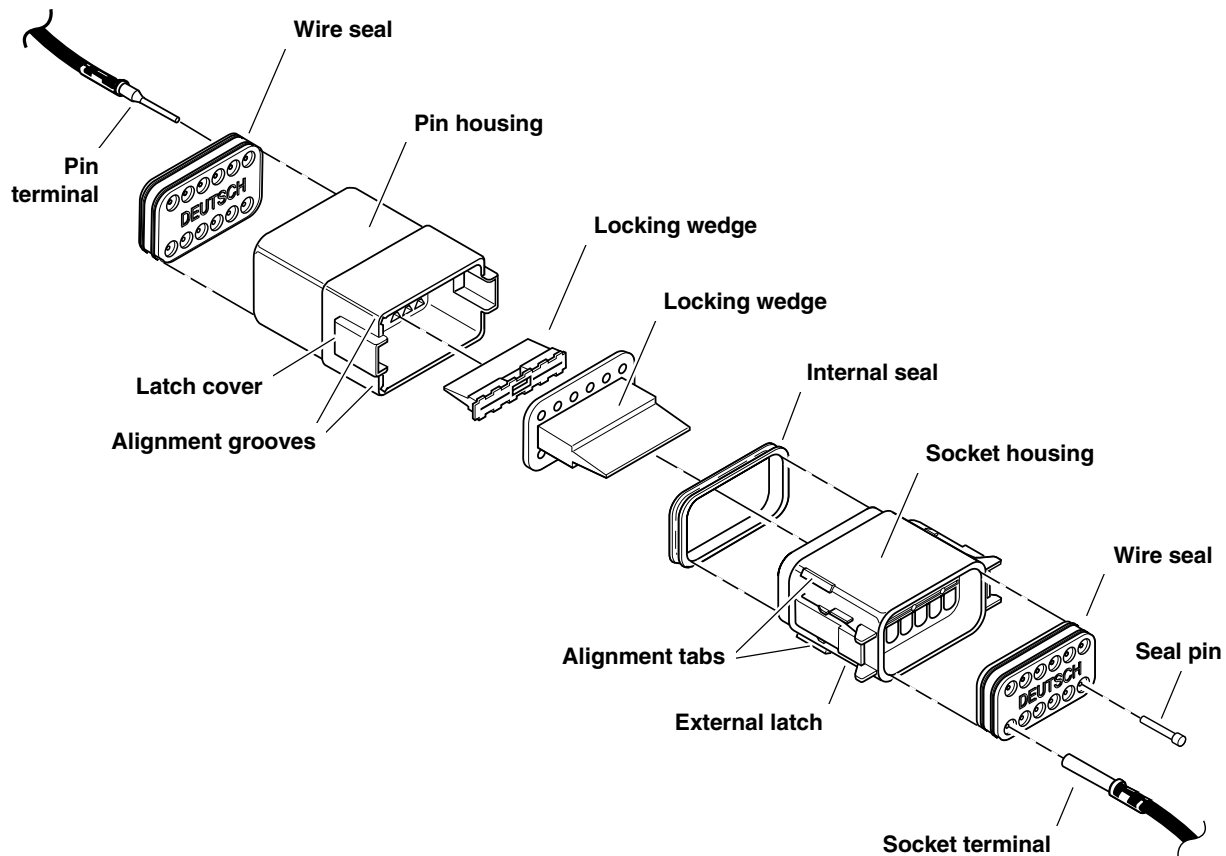

Figure B-8. 12-pin Deutsch Connector (Exploded View)
See Figure B-8. This 12-pin connector illustrates the various parts of the Deutsch connector. The following instructions may be followed for all 2-pin through 12-pin Deutsch connectors.
2. See Figure B-8. Gently depress terminal latches inside socket housing and back out sockets through holes in rear wire seal.